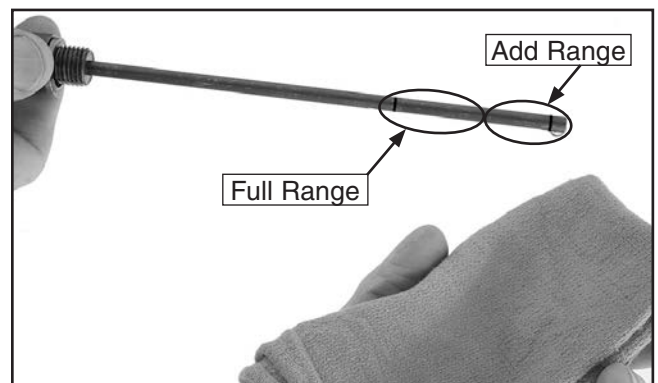

Figure 10. Checking the fluid level.
3. Wipe off the dipstick and use it to check the oil level as shown in **Figure 10**.